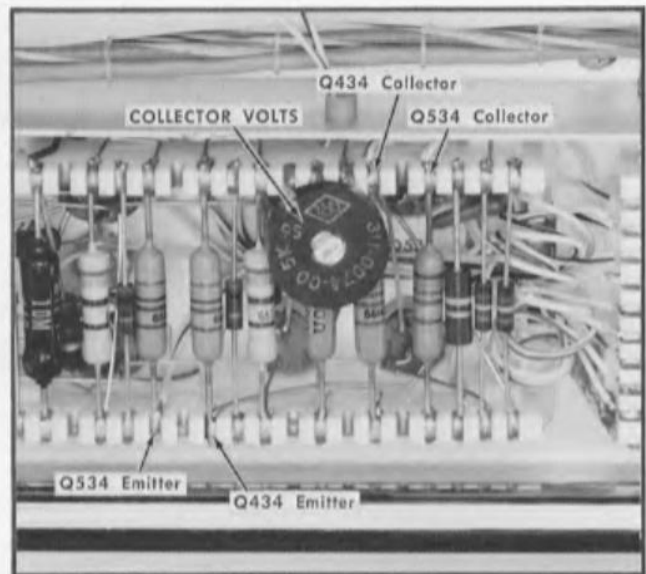

Fig. 6-10. Location of test points for steps 5 and 6.
- d. Connect the DC voltmeter common lead to the collector of Q434 (Fig. 6-10).
- e. Connect the DC voltmeter positive lead to the collector of Q534 (Fig. 6-10).
- c. Connect the voltmeter common lead to the collector of Q434 (Fig. 6-10).
- e. Adjust COLLECTOR VOLTS ADJ, Fig. 6-10, for 7 volts on the voltmeter.